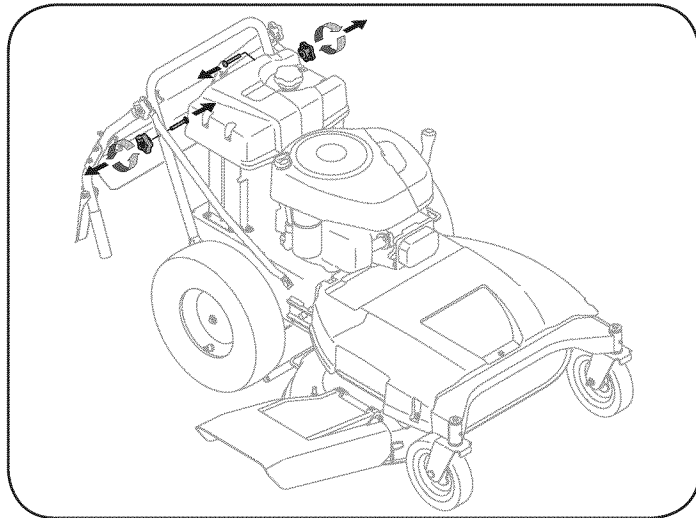

Figure 3
1. Remove the star knobs and carriage screws from the lower handle. See Figure 3.